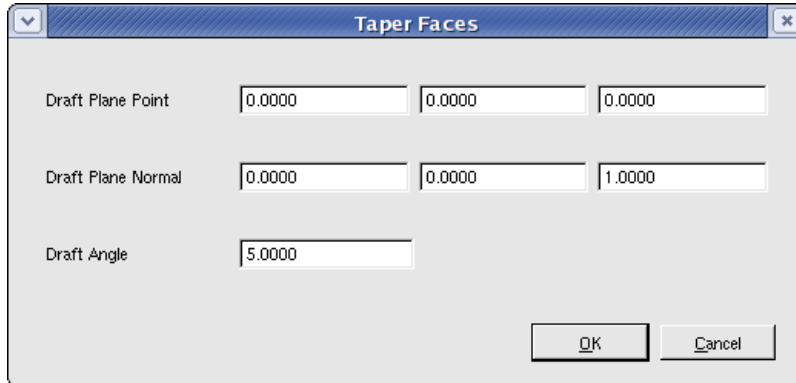

Figure 36 Taper Faces dialog box
5. Enter the draft plane center, the draft plane normal, and the draft angle in the Taper Faces dialog box (see Figure 36 on page 78).